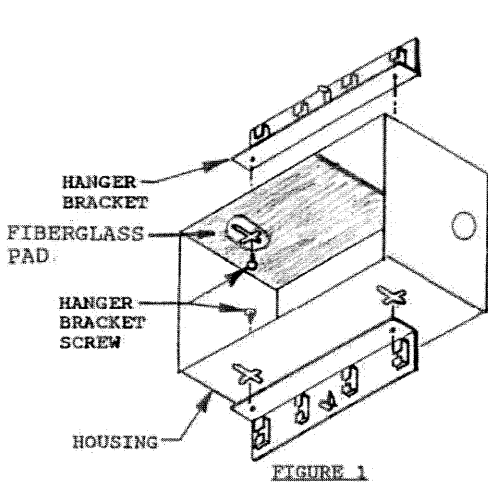

FIGURE 1
- 1.- Attach HANGER BRACKETS to housing. BRACKETS must be parallel to front edge of HOUSING. (SEE FIGURE 1)